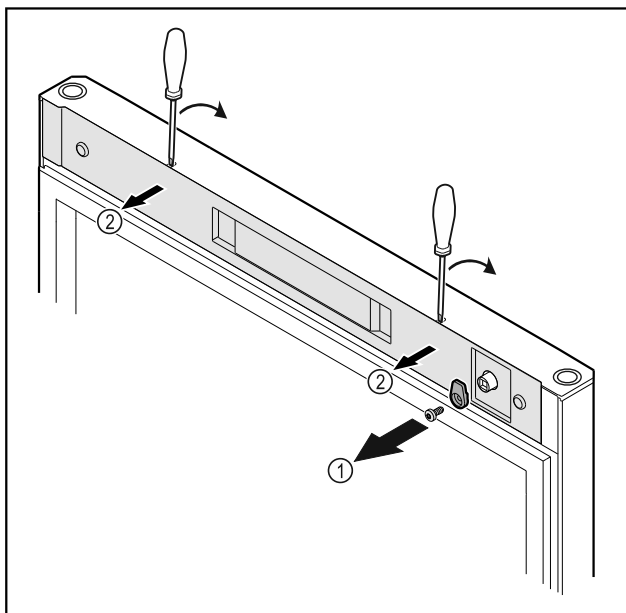

Fig. 10
- Unscrew the door latch Fig. 10 (1).
- Unlatch the cover Fig. 10 (2) with a small screwdriver and remove it.